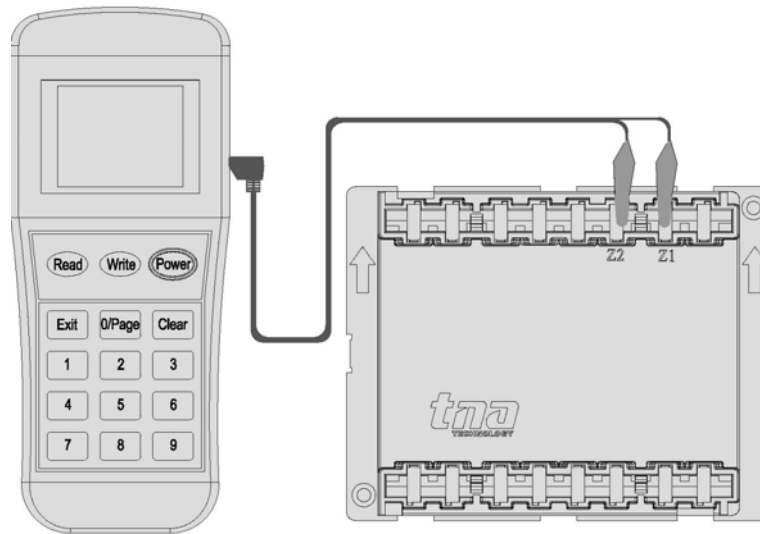

Figure 3: Programmer Connection Detail
1. Connect the programming cable to Z1 and Z2 terminals (Figure 3). Press **"Power"** to switch on the unit.
2. Connect the programming cable to Z1 and Z2 terminals (Figure 3). Press **"Power"** to switch-on the unit.
- Connect the programming cable to Z1 and Z2 terminals (Figure 3). Press **"Power"** to switch-on the unit.